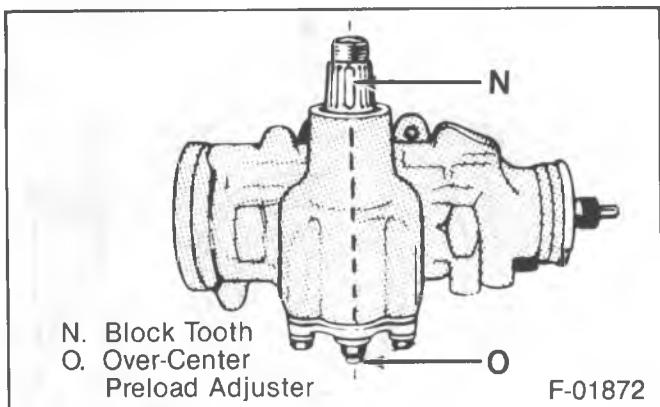

Figure 19—Pitman Shaft ‘Over-Center’ Sector Adjustment
- Install the adjuster nut (245) and torque the nut to 108 N·m (80 ft. lbs.). Hold the adjuster plug to maintain alignment of the hole with the mark.
- Check the turning torque of the stub shaft, using J 7754-01 and a 12-point socket. The reading should be taken with the beam of the wrench near vertical while turning the wrench to the left at an even rate (figure 19). If the reading is less than 0.45 N·m (4 in. lbs.) or more than 1.15 N·m (10 in. lbs.), repeat the adjustment procedure.
- Lubricate the stub shaft (251) area outside the dust seal (206) with chassis lubricant or an all purpose grease.